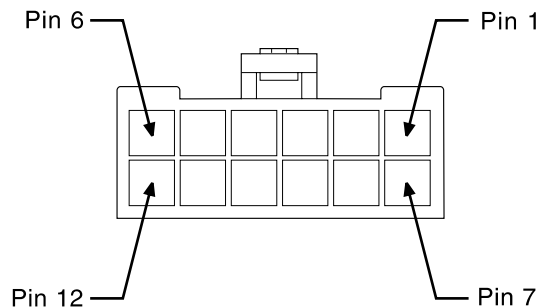

Figure 9. Ground pins (-48 V 2104 Model DS4)
7. Check for continuity between the chassis of the 2104 Model DS4 and the ground pins 1 and 7 of each mainline-power connector. See Figure 9.